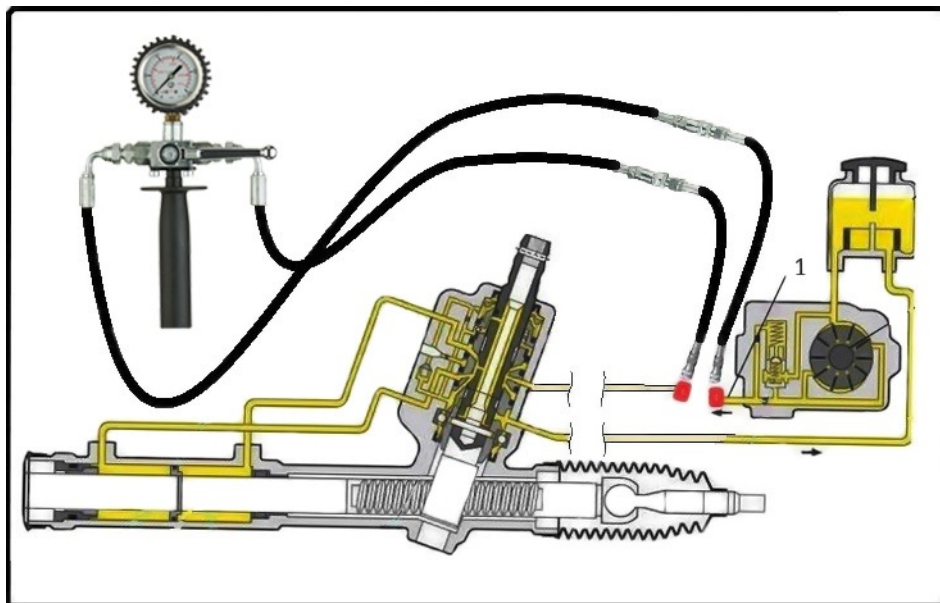

Figure 2: Connection of the tester to the power steering system:
1. Connect the tester to the pump and the high-pressure mainline as shown in Fig. 2: